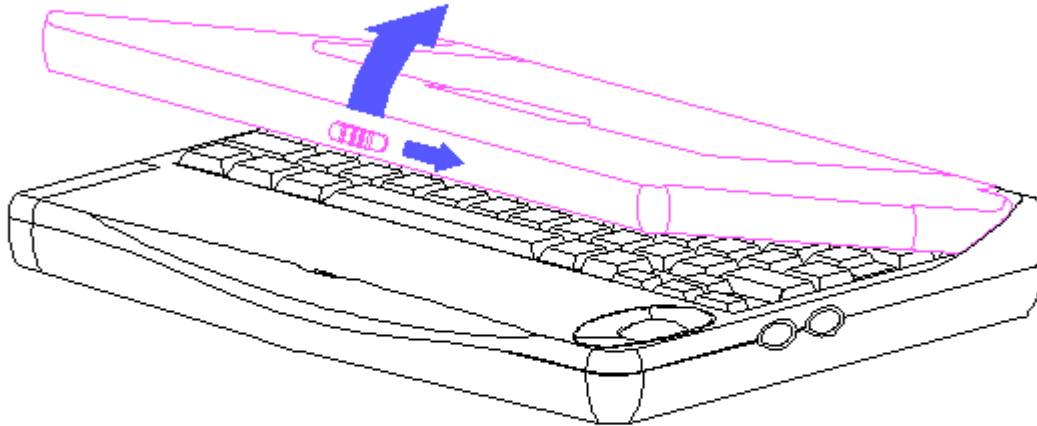

Figure 3-4. Opening the Display
6. Slide the latch on the front of the computer to the right and open the display (Figure 3-4).